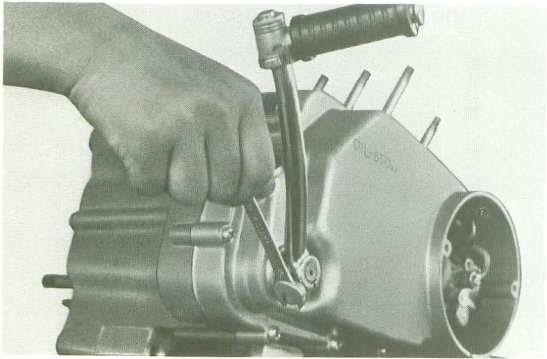

Fig. 4-7-1
- a. Remove the kick starter crank clamping and remove the crank. (Fig. 4-7-1)